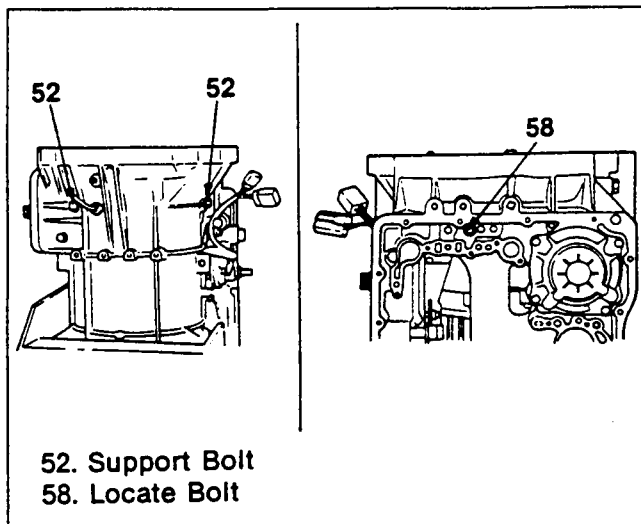

Figure 281. Drum Support Installation (3)
6. Fasten the drum support with three bolts, first the locate bolt followed by the other two. Apply sealing compound (Three Bond 1215 or equivalent) to the flange face of the two bolts outside the case (figure 281).